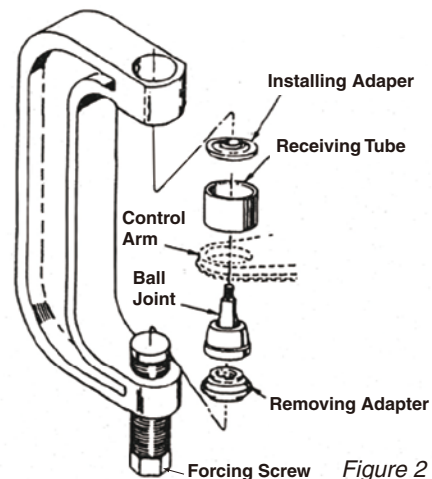

Figure 2
3. Assemble the ball joint press components as shown in Figure 2. Position the receiving tube, and tighten the forcing screw. Check the alignment of all tooling and components, and continue tightening the forcing screw until the ball joint is firmly seated.